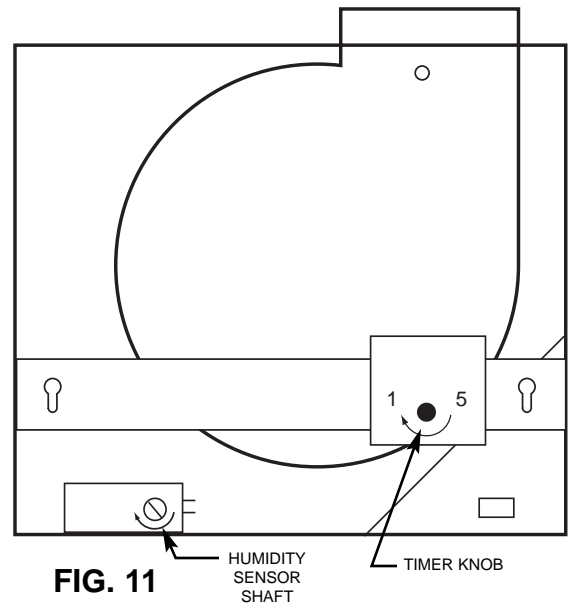

FIG. 11
- Refer to Figure 11 for location and orientation of components